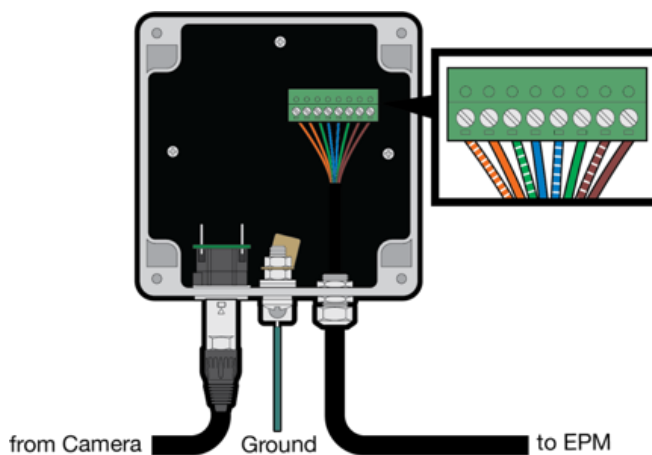

Figure 1
1. Using a ground meter, verify the mounting structure is well grounded by testing the resistance to ground at the ground rod connected to the structure as seen in Figure 1. The resistance to ground should be 25 Ohms or less.
7. Connect a #10AWG ground wire from the SMCH ground lug seen Figure 1 to the mounting structure. If the structure is powder coated or otherwise does not provide a path to ground, run the #10AWG ground wire from the SMCH ground lug directly to the structure's ground rod.